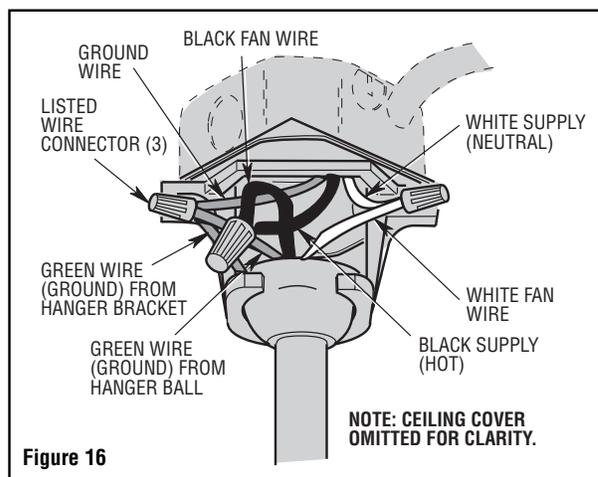

Figure 16
1. Connect the green grounding lead from the hanger ball and the green grounding lead from the hanger bracket to the grounding conductor of supply (this may be a bare wire or wire with green colored insulation). Securely connect wires with wire connectors supplied. (Figure 16.)
2. Securely connect the fan motor white wire to the supply white (neutral) wire using wire connector supplied (Figure 16). Securely connect the fan motor black wire and blue wire to the supply black (hot) wire using wire connector supplied (Figure 16). After connections have been made, turn leads upward and carefully push leads into the outlet box, with the white and green leads on one side of the outlet box and the black lead on the other side of the outlet box.